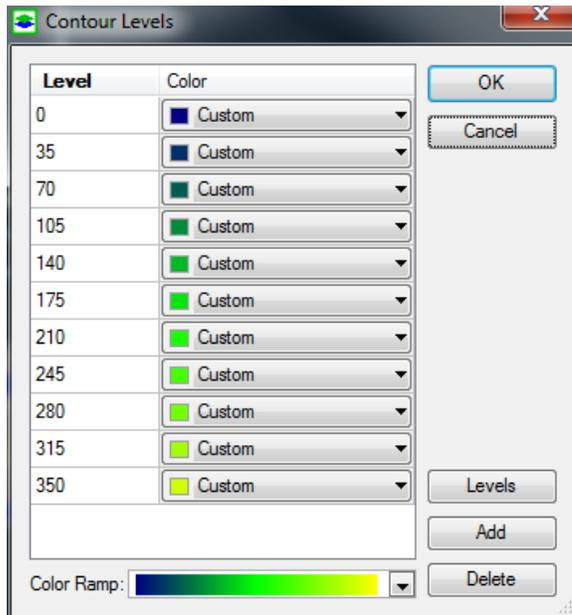

Figure 2.3. The Contour Levels dialog box
- *Contour Levels*: Click the button to open the Contour Levels dialog box (Figure 2.3) that contains a table showing levels and corresponding colors. You can modify the table by using the following controls.